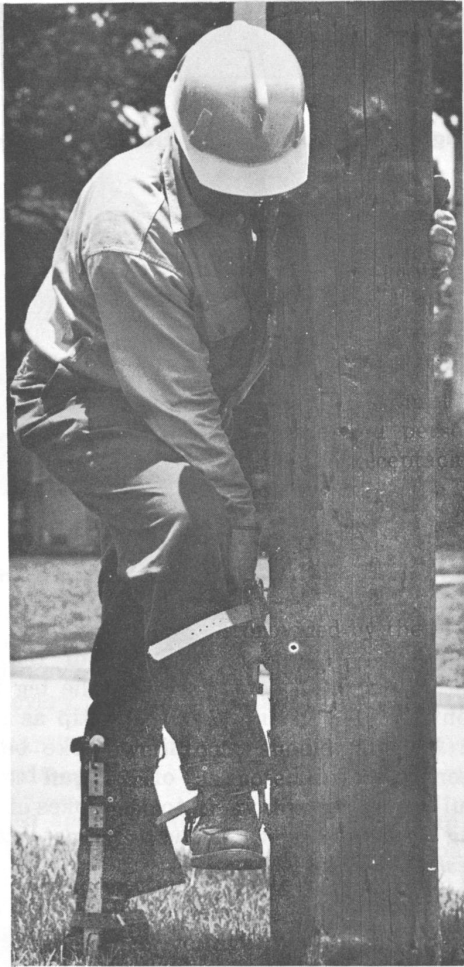

Fig. 15 — Climber Holding
3. Keeping just enough pressure on the stirrup to keep the gaff in the pole, but not so much as to cause the gaff to penetrate any deeper, push the climber and your hand toward the pole by moving your knee until the strap loop of sleeve is against the pole as shown in Fig. 15.